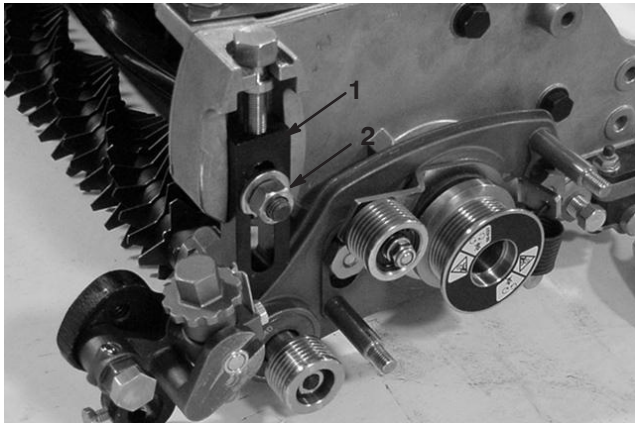

Figure 32
5. Remove carriage bolt, nut, and washer securing height-of-cut arm assembly to side plate (Fig. 32).